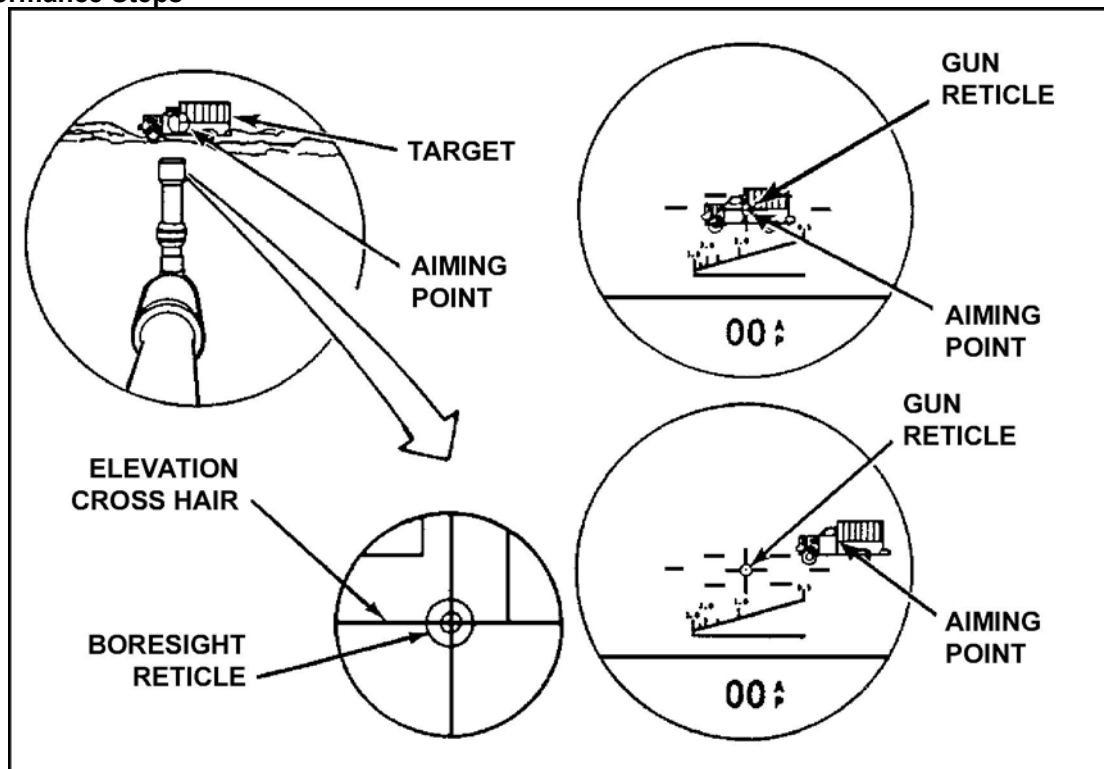

Figure 7. Alignment.
- (2) Turn the EL knob to align the elevation cross hair of the gun reticle on the aiming point of the target (Figure 7).
(3) Turn the AZ knob to align the azimuth cross hair of the gun reticle on the aiming point of the target (Figure 7).